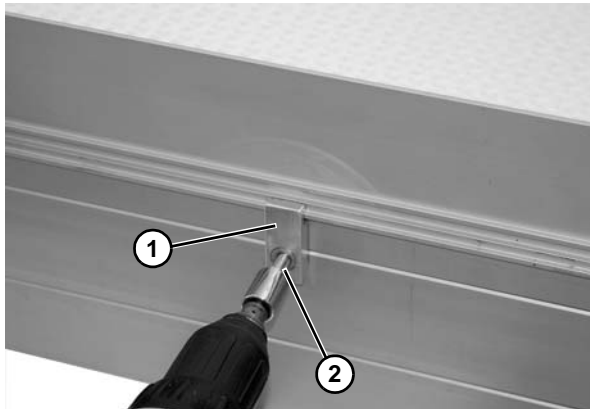

Figure 29
3. Position and hold bracket (**Figure 29, item 1**) to side rail. With a standard M6-1.0 or 1/4-20 screw, install screws (**Figure 29, item 2**) with cordless drill or equivalent. Do not fully tighten with drill.